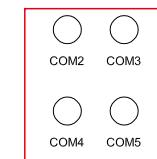

Figure 4.7
- Remove the cap nut from the waterproof cable glands labeled at the bottom of the inverter. Remove the plug from the fitting. (in Figure 4.7).